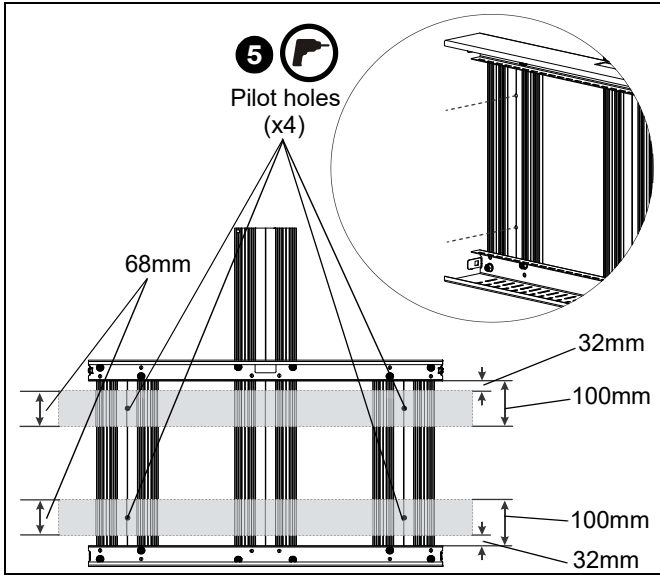

Figure 13
- Lay the assembled storage box (H) down on a smooth level surface. Mark and drill two mounting holes through the v-notch in each side extrusion (four total pilot holes). Pilot holes must be located within 32-100mm from the top/bottom of the extrusions. (See Figure 13)